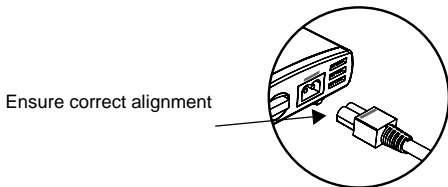

Figure 2 Connecting the Inverter and DC Cable
1. Plug the DC cable into the DC cable port on the Pocket inverter. Observe correct polarity. See Figure 2.
4. Plug the DC cable into the DC cable port on the Pocket inverter. Observe correct polarity. See Figure 2.